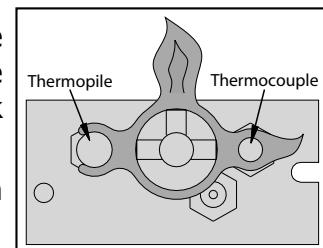

Figure 4. Pilot flame.
1. Turn off the gas to the fireplace. **If not recently done, remove the glass and let the unit air out for at least five (5) minutes to clear out any gas.** Turn on gas to the heater. Leak test all joints with soapy water. **NEVER USE AN OPEN FLAME FOR LEAK TESTING.**
2. Start the pilot by pressing the gas control knob and turning it to PILOT. While holding the gas control knob in, press the piezo ignitor several times until the pilot light starts. Hold the gas control knob in for thirty (30) seconds. Check that the pilot has fully engulfed the thermocouple assembly (see Figure 4).